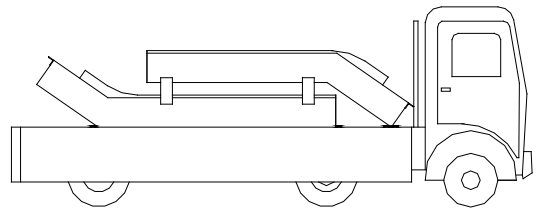

Figure 4-2 Transportation in sections
3.5 For transportation in stacked sections, there shall be auxiliary supports set securely on both sides of the truss, but their upper parts must have horizontal connecting beam to bear the total weight of the truss section. Wooden pieces shall be placed between the truss and supporting beams to prevent displacement during transportation. Refer to Figure 4-2.